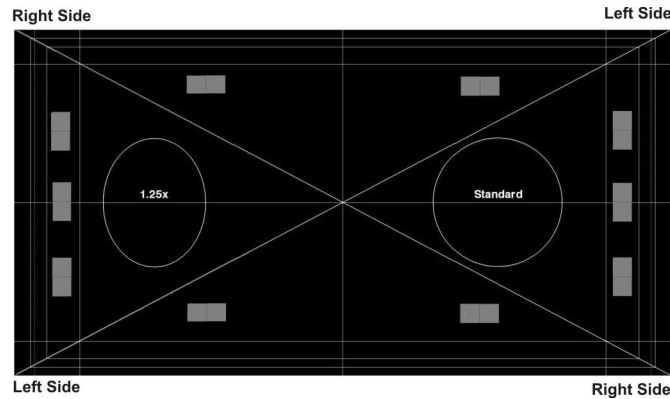

Figure 2-19 Example of Framing Test Pattern
7. Check the screen each time an adjustment is made. The right-side adjustments affect the top right and bottom left points on the screen (**Figure 2-19**). Once both cross hairs are in focus lock the set screw for right boresight.